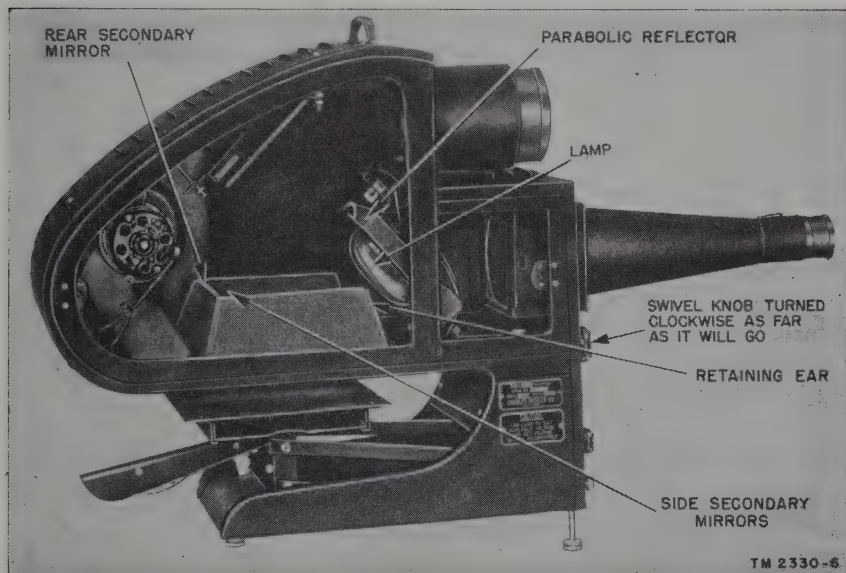
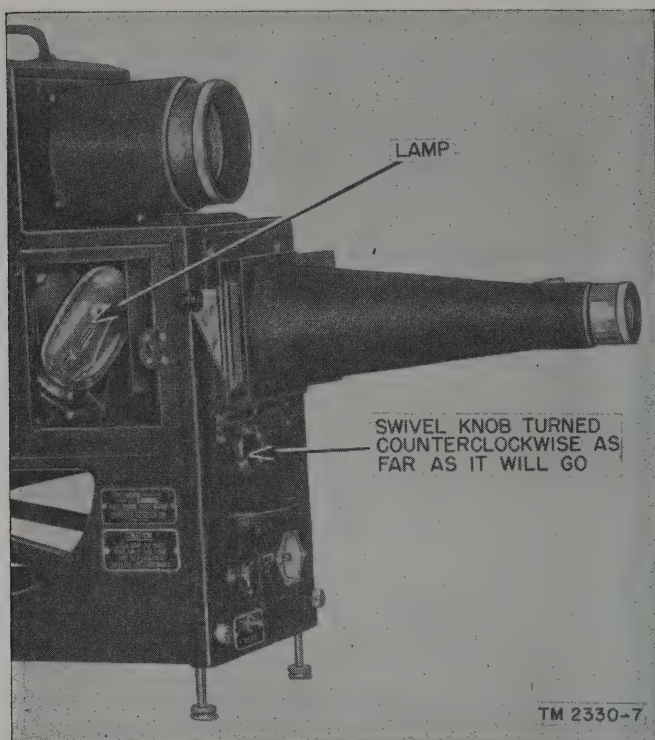

Figure 8. Position of lamp for projection of opaque material.
Figure 12. Position of lamp for projection of slides and film strips.
a. **INSTALLING LAMP.** Open the large door of the projector by turning the latch counterclockwise. The lampholder will be in either one of the positions shown in figures 8 and 12. If the lampholder is in the position shown in figure 12, turn the swivel actuating knob clockwise as far as it will go. The socket will then be in position for inserting the lamp (fig. 8). The base of the lamp has two ears, one wider than the other, to correspond with the two slots in the lampholder. Be sure that the wider ear is inserted into the wider slot of the socket. Push the lamp gently downward until the ears are below the rim of the socket. Turn the lamp clockwise until it comes to a positive stop.
(*b*) Check the position of the lamp. If the lamp is in the position shown in figure 8, it is in the correct position for the projection of opaque material. If the lamp is in the position shown in figure 12, turn the swivel actuating knob clockwise as far as it will go. This will place the lamp in the proper position for the projection of opaque material (fig. 8).
(c) Examine the surfaces of the rear and side secondary mirrors (fig. 8) and, if necessary, clean them (par. 35).
(b) Check the position of the lamp. If it is in the position shown in figure 8, turn the swivel actuating knob counterclockwise as far as it will go. This will place the lamp in the proper operating position for the projection of slides (fig. 12).